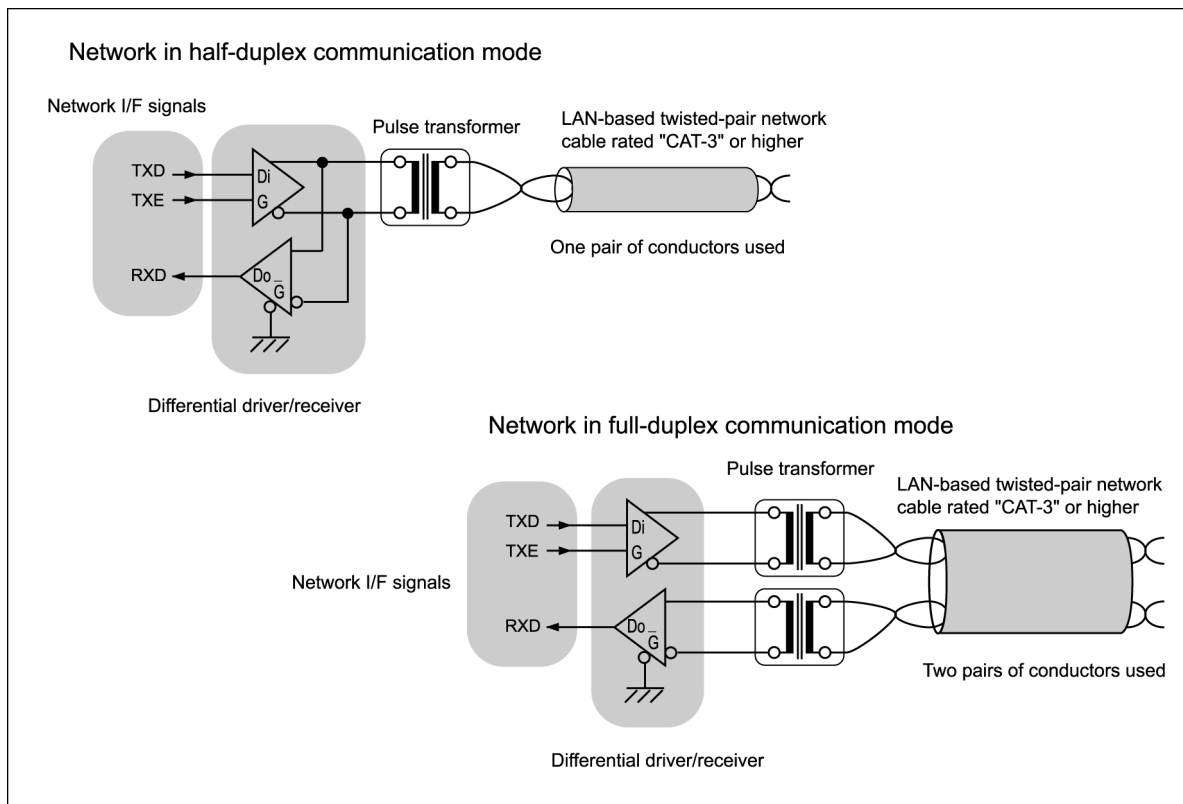

Fig. 5.3 Network
- ◆ For simplicity and reliability, StepTechnica recommends the connection in Figure 5.3. The recommended networks are as follows: